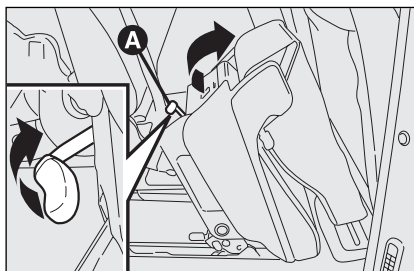

fig. 24
- ☐ operate handle **A**-fig. 24 and guide the seat forward as shown in the figure;